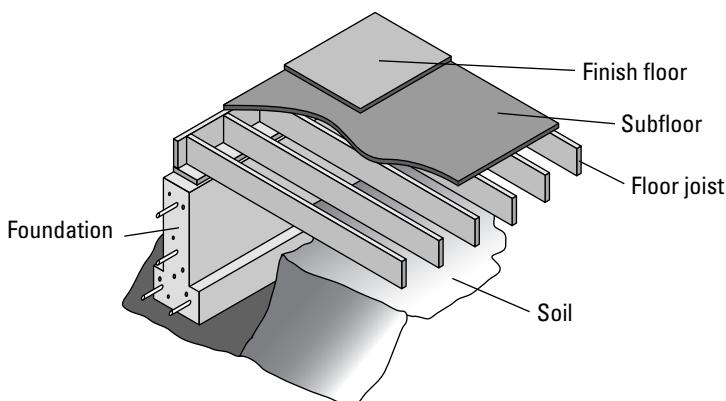

Figure 4-2:
- ✓ **Solid concrete (see Figure 4-2):** Solid concrete foundations are made of a mixture of cement, sand, rock or gravel, and water. When poured into forms and left to dry, this pancake-batter-like blend becomes unbelievably rigid. Steel reinforcing bars are used within the concrete to create added strength. Because of its rigidity, concrete can crack when the earth moves, which can lead to foundation shifting and cracks that can undermine the home's structural integrity. Water leaks also can result.